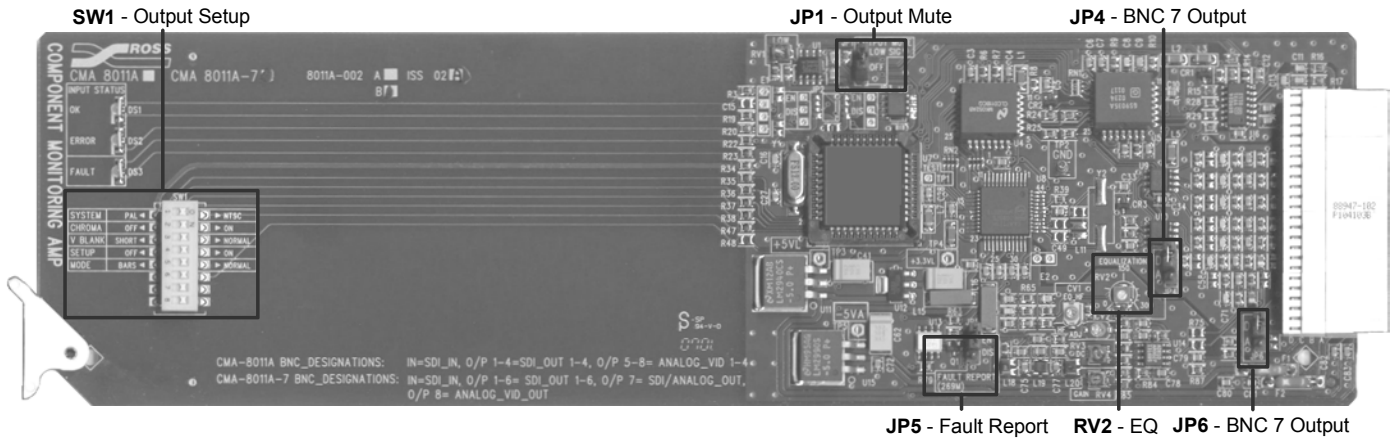

Figure 2. User Control Locations
Use figure 2, the card labeling, and the following discussion to adjust the switch settings to configure the analog output signal.
**JP4** and **JP6** configure the function of BNC 7 for composite or reclocked SDI output. Use figure 2, the card labeling, and the following discussion to select the output for BNC 7.
Use figure 2, the card labeling, and the following discussion to adjust the CMA-8011A-7 equalization setting.